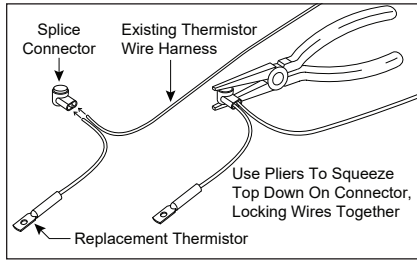

Figure 92 - Splice Connector
- 8 Using a splice connector included in this kit, insert the ends of the wires into the splice connector as shown in Figure 92 on the following page. **DO NOT** strip the insulation from wires. Use pliers to squeeze the top of the connector down, locking the two wires together.
- 17** Using a splice connector included in this kit, insert the ends of the wires into the splice connector as shown in Figure 92. **DO NOT** strip the insulation from wires. Use pliers to squeeze the top of the connector down, locking the two wires together.